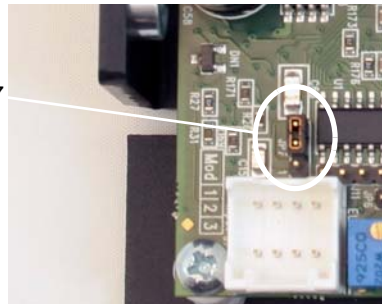

Fig. 3.15 Setting the Volts/Degree Scaling Factor
- 1) Identify JP7 as shown in Fig. 3.15.